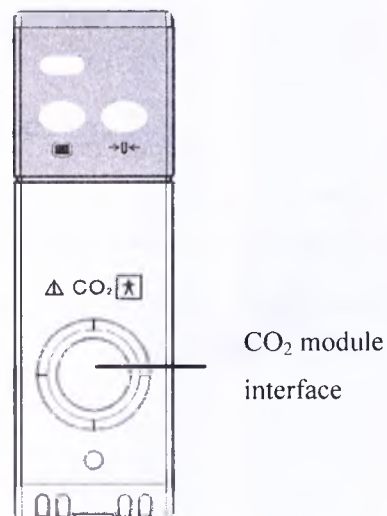

Figure 15-3 CO₂ Plug-in Module
- When this monitor has the CO₂ measurement function on the CO₂ module (as shown in Figure 15-3), the minihost and the AG module, it gives priority to the CO₂ module (as shown in Figure 15-3).